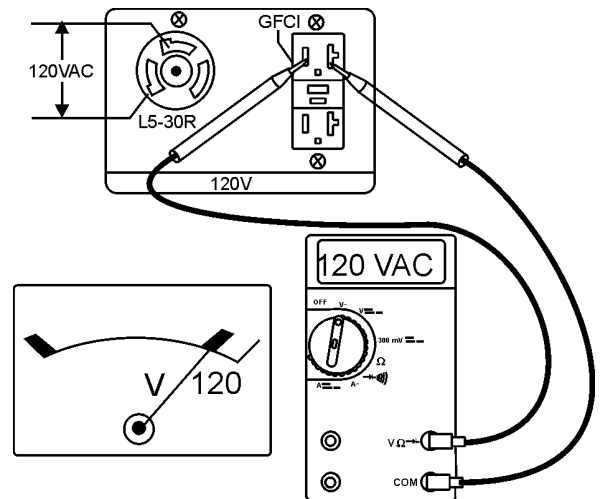

Figure 20. 120 V and GFCI Receptacles
- Read the **voltmeter** on the front panel of the generator (Figure 20) and verify that 120 VAC is present at the 120V twist-lock and GFCI duplex receptacles. For additional verification of voltage, an external voltmeter can be used to measure the output voltage as shown in Figure 20.